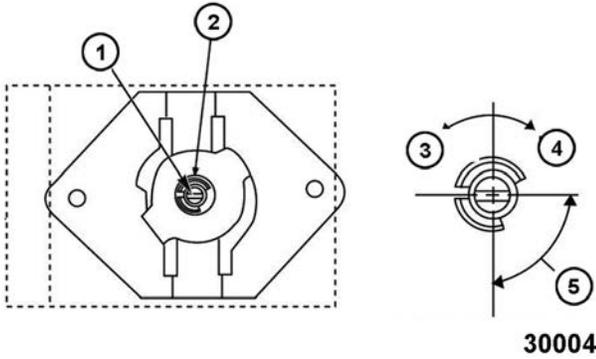

Fig. 118
- B. While holding outer shaft in place, turn inner screw using a small flat edge screwdriver 1/8 turn clockwise to decrease and counterclockwise to increase. 1/4 turn = 35°F. See Fig. 118 below.
Front of Thermostat Shown in Fig. 118
- While holding outer shaft in place, turn inner screw using a small flat edge screwdriver 1/8 turn clockwise to decrease and counterclockwise to increase. 1/4 turn = 35°F. See Fig. 118 under CONVECTION OVEN THERMOSTAT-COMBO VALVE CALIBRATION.